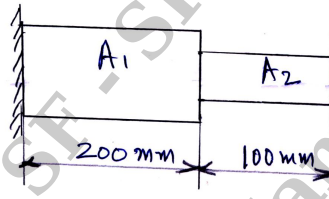

Fig.Q10(b)
b. For the stepped bar shown in Fig.Q10(b), determine the eigen values and eigen vector. Take  $A_1 = 400 \text{ mm}^2$ ,  $\rho = 7850 \text{ kg/m}^3$ ,  $E = 200 \text{ GPa}$ ,  $A_2 = 200 \text{ mm}^2$ . (10 Marks)